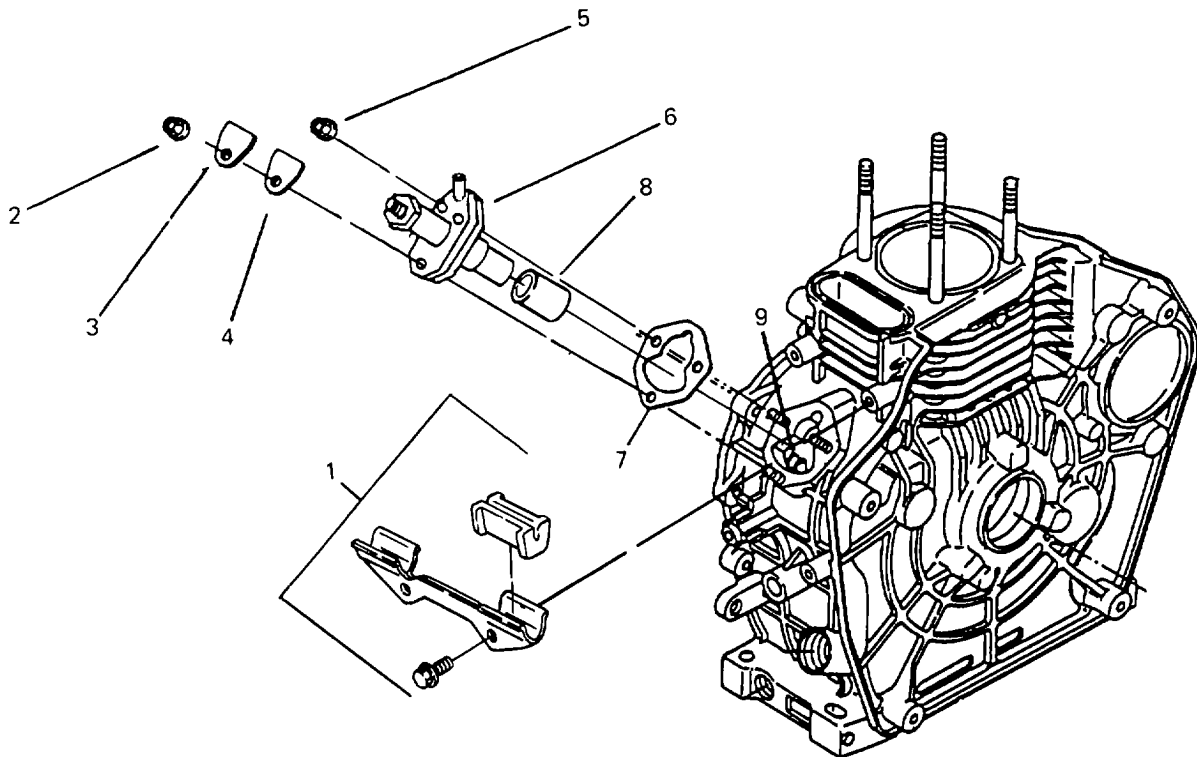

Figure 5-5. Replace Fuel Injection Pump
REMOVAL: Refer to Figure 5-5.
- d. Refer to Figure 5-5. Position metal shim (7) and carefully insert fuel injection pump (6) onto the studs, making sure the speed control lever engages into governor yoke (9).
- e. Secure fuel injection pump onto studs using two nuts (5).
- f. Attach pump viewing access plate (3) and new gasket (4) with one hex nut (2).
- h. Replace lower fuel tank mounting bracket and rubber pads (1).
- (1) The fuel injection timing is adjusted by adding or removing shims (7) (refer to Figure 5-5) to speed up or slow down the actual fuel injection.
- (1) Refer to Figure 5-5. Loosen hex nut (2) and remove pump viewing access plate (3) and gasket (4).
- (4) Refer to Figure 5-5. Install pump viewing access plate (3) and gasket (4), and tighten hex nut (2).